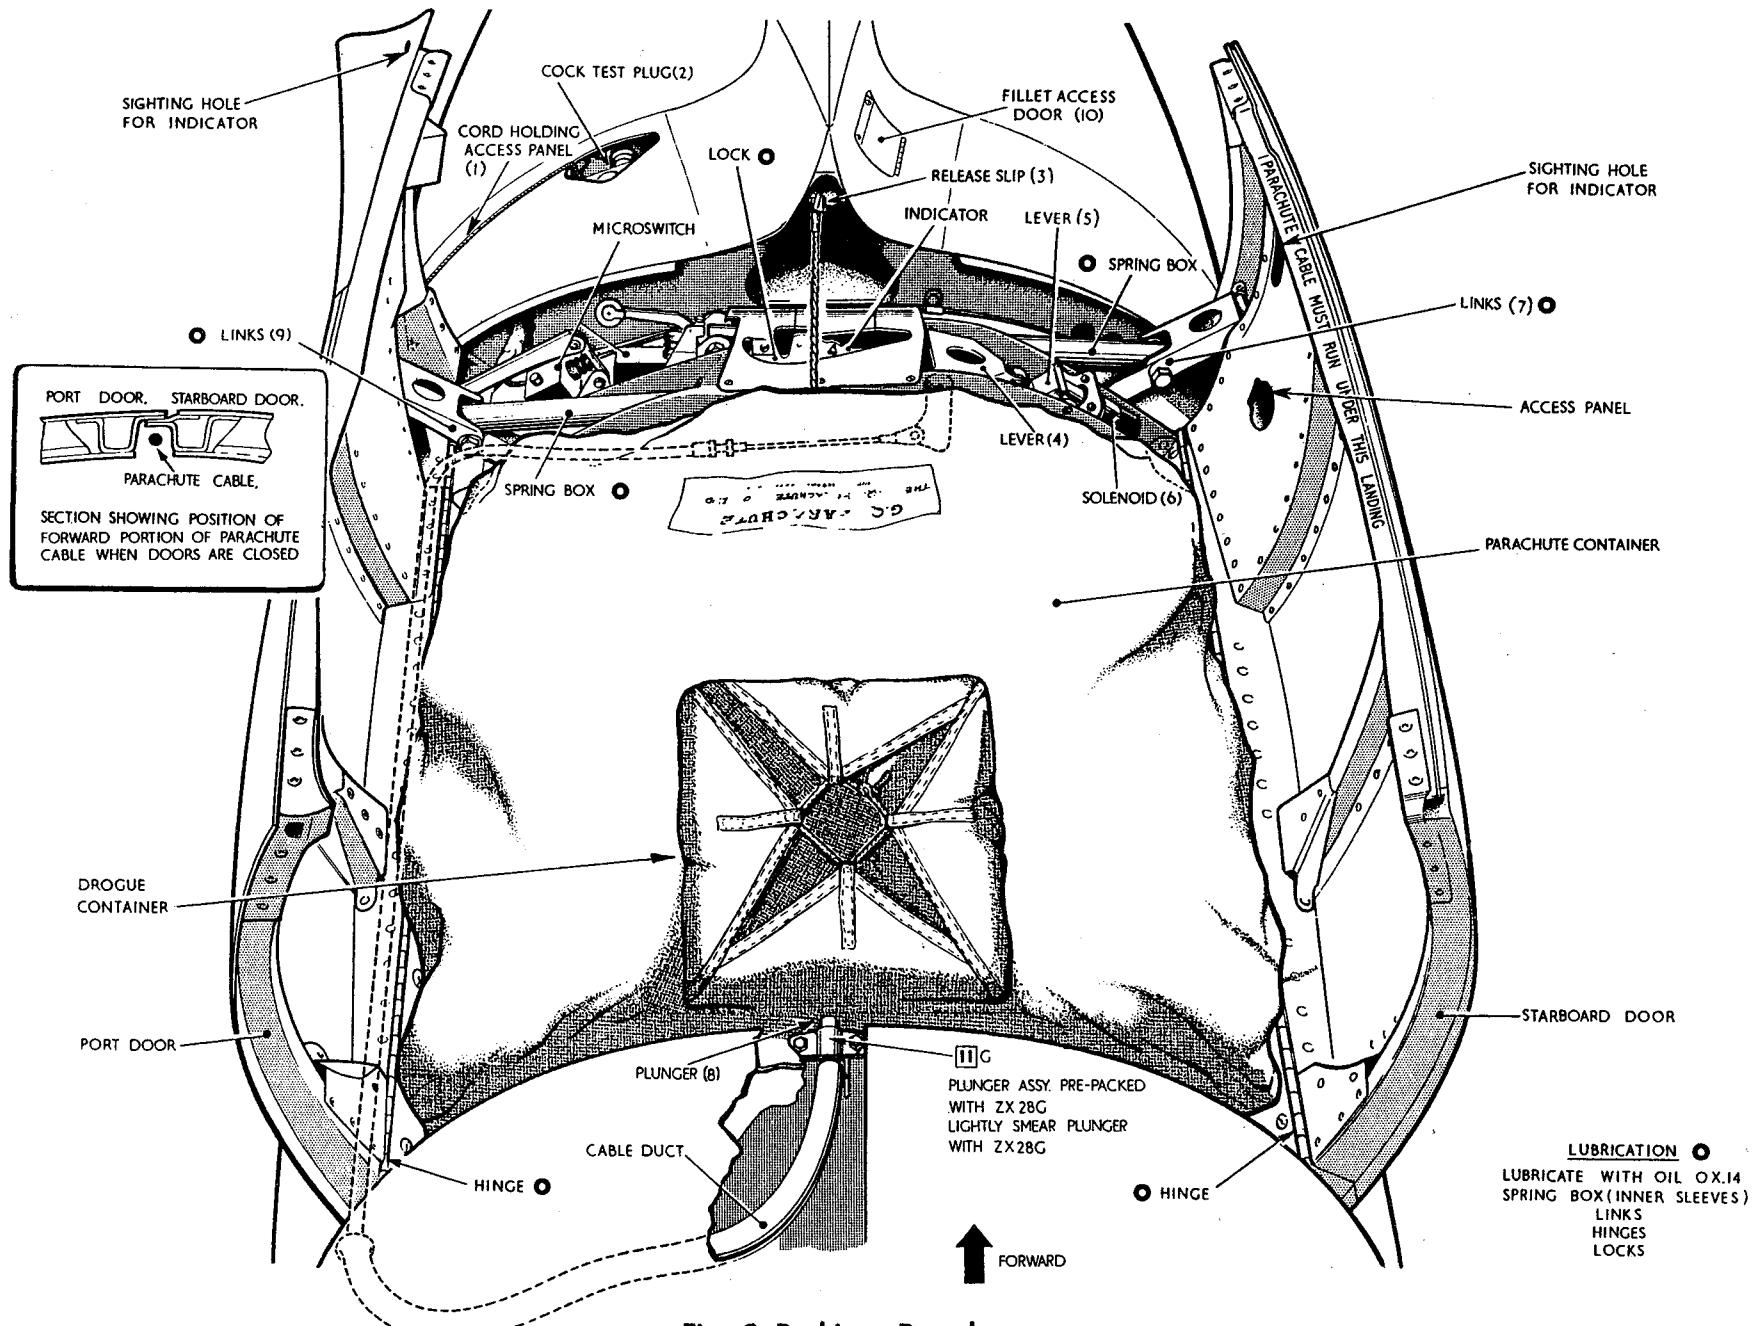

Fig. 3 Braking Parachute
**Assembly of braking parachute (fig. 3)**
- (1) Isolate the electrical services from the parachute release by opening the fillet door (10).
- (2) Remove the access panel from the forward end of the starboard parachute door, apply hand pressure to the doors to prevent them springing open, depress the lever (5) with a suitable tool and gradually release the pressure on the doors to allow them to rise, under control.
*All pivot points as well as the spring box assemblies for both port and starboard doors are to be lubricated, at those periods laid down in the Servicing Schedule, as detailed in fig.3. The E.M. release unit must be serviced in accordance with the instructions given in A.P. 110 series.* ▶